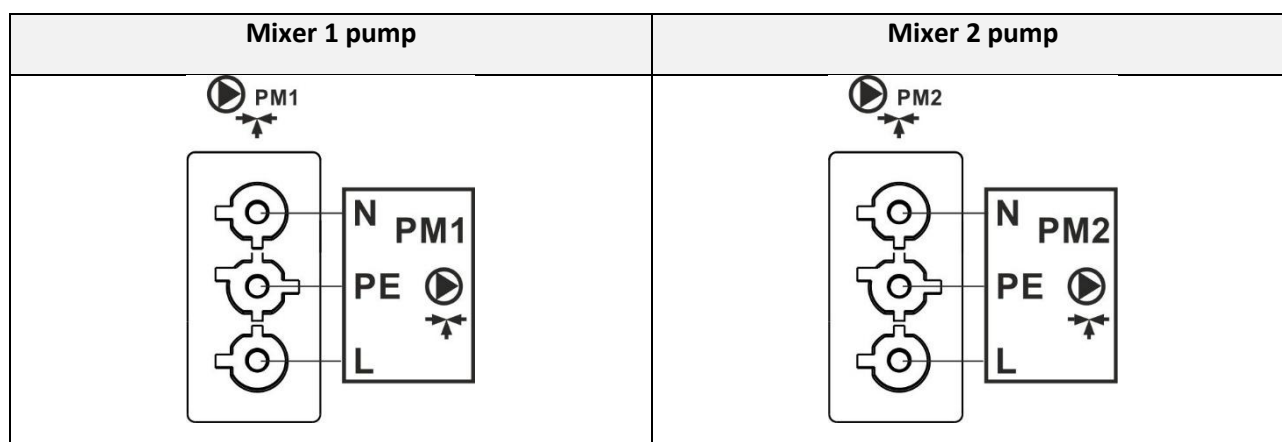

Figure 23. Wiring diagram of Mixer pumps
- connect the Mixer pump via the connector on the top of the switchboard to the controller (see Figure 23) according to the technical documentation of the pump manufacturer.